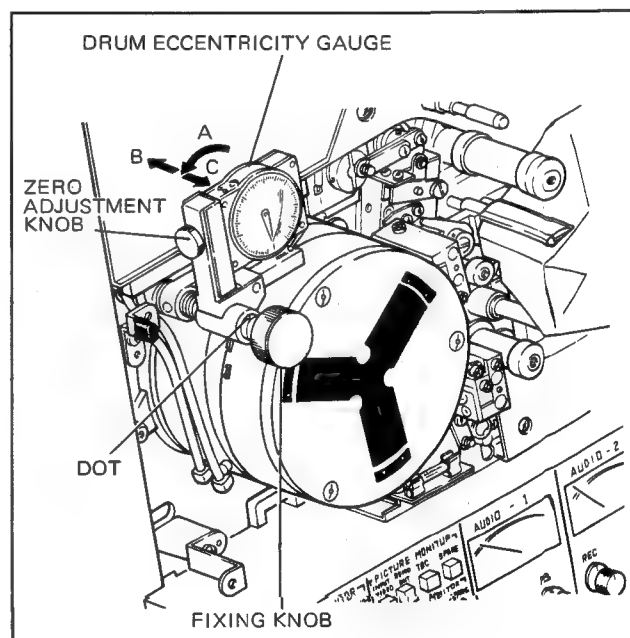

Fig. 3-5. Head Projection Measurement
5. To measure the projection of video head, move the gauge in A direction shown in Fig. 3-5 and move it in B or C direction so that half of the dot is hidden. Then turn the gauge slowly back toward the drum.
To measure the projection of sync head, move the gauge in A direction shown in Fig. 3-5 and move it in B direction until it stops. Then turn the gauge slowly back toward the drum. Measure the head projection as steps 6 to 8.